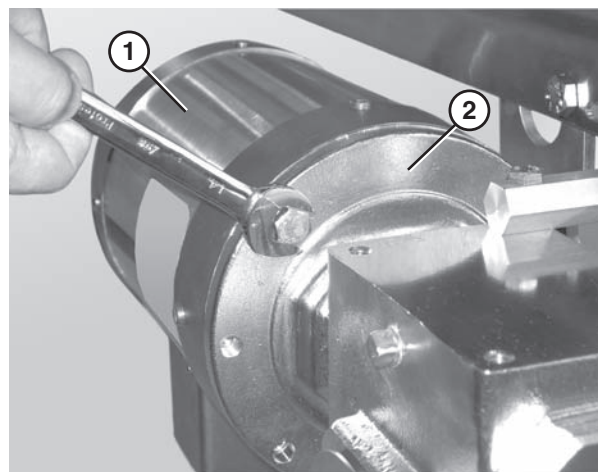

Figure 60
5. Remove the bolts that connect the motor (Figure 60, item 1) to the gear reducer (Figure 60, item 2).